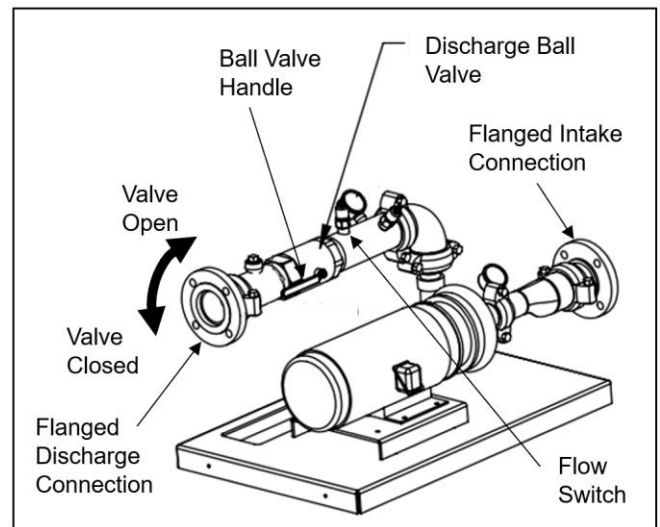

Figure 12-8. Discharge Ball Valve.
- Open the Discharge Ball Valve (C, Figure 4-1) by placing the handle controlling the valve butterfly parallel to the discharge piping. See Figure 12-8.
1. If Flow Start is desired, the CLPRS includes a factory installed Flow Switch (Q, Figure 4-2) with the pump station on the discharge pipe. See Figure 12-8.